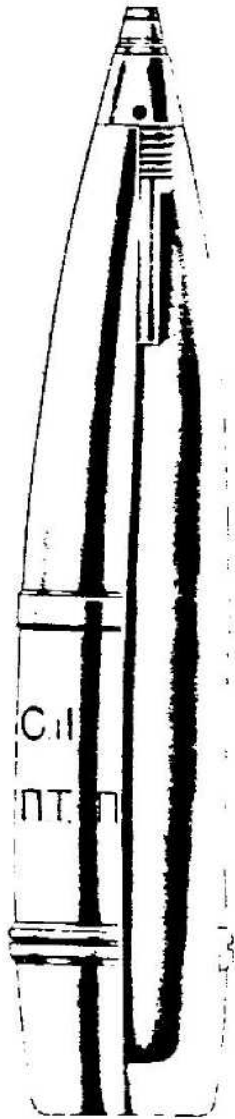

Figure 444—H. E. Projectile for 100-mm Howitzer,
**GERMAN NOMENCLATURE:** 10-cm Sprgr. (A. Z.) 310 (j). (See fig. 444.)